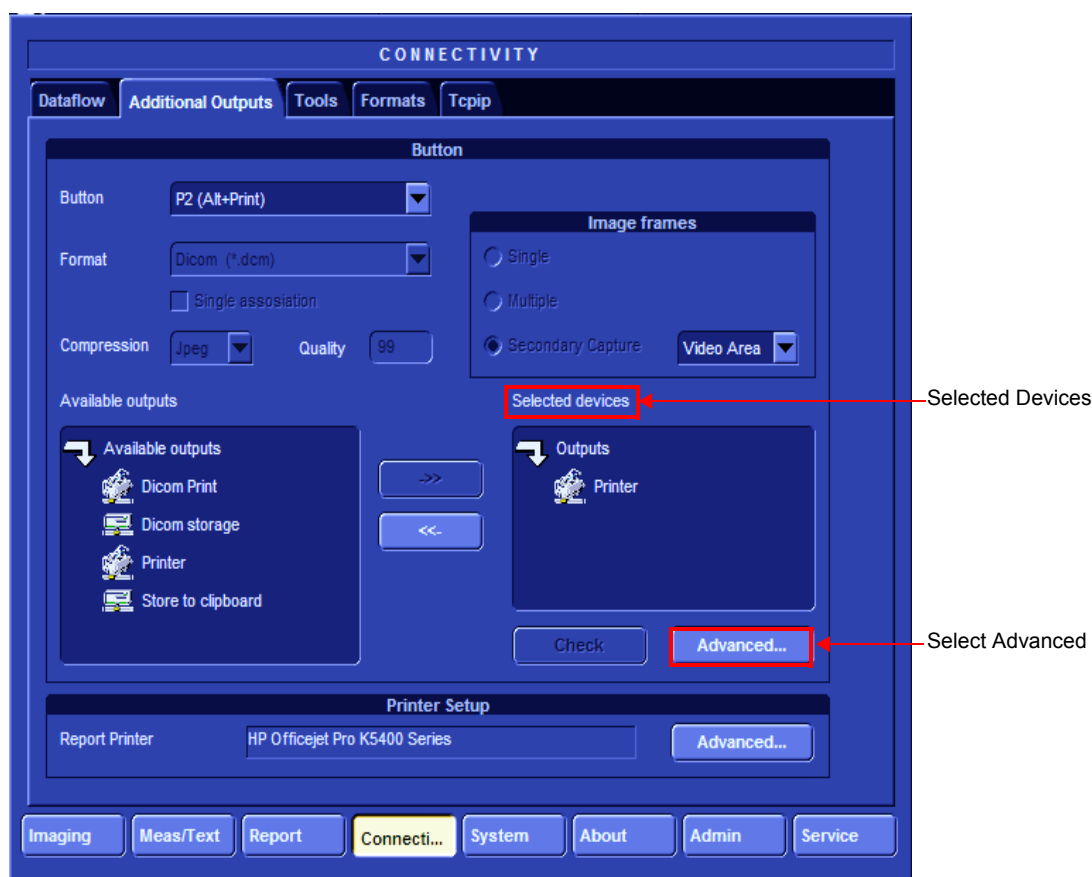

Figure 3-39 Advanced option at Windows level
- 1.) Click the **Tcpip** tab on the Connectivity screen (see Figure 3-39 on page 3-47).